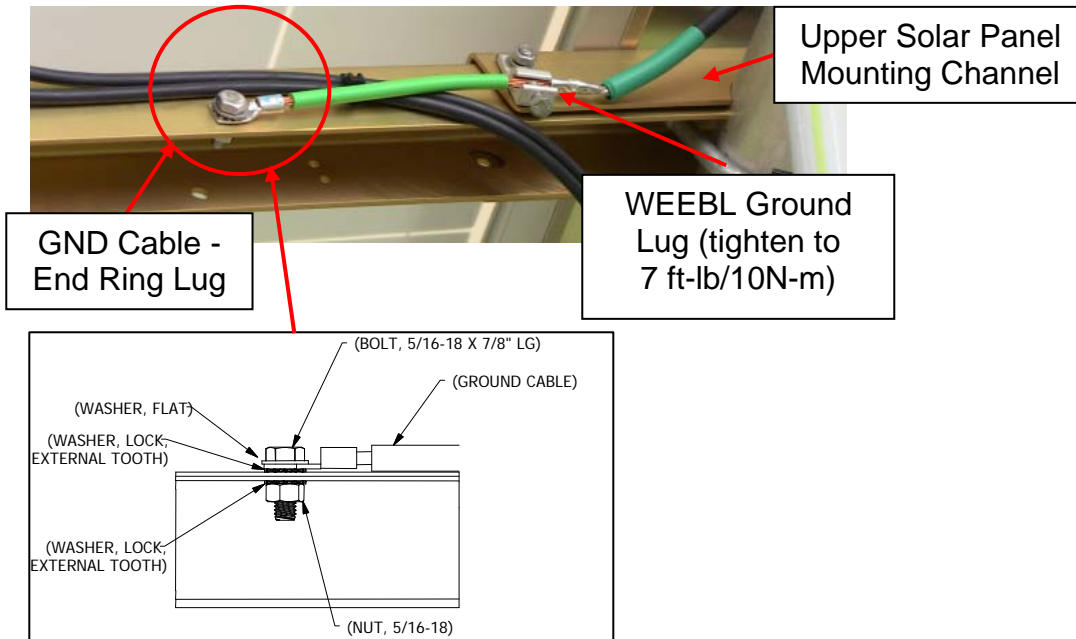

Figure 12
3. Connect the end ring lug on the Ground Cable (#6 AWG) to the Upper Solar Panel Mounting Channel. Tighten WEEBL Ground Lug onto bare wire as shown in Figure 12.